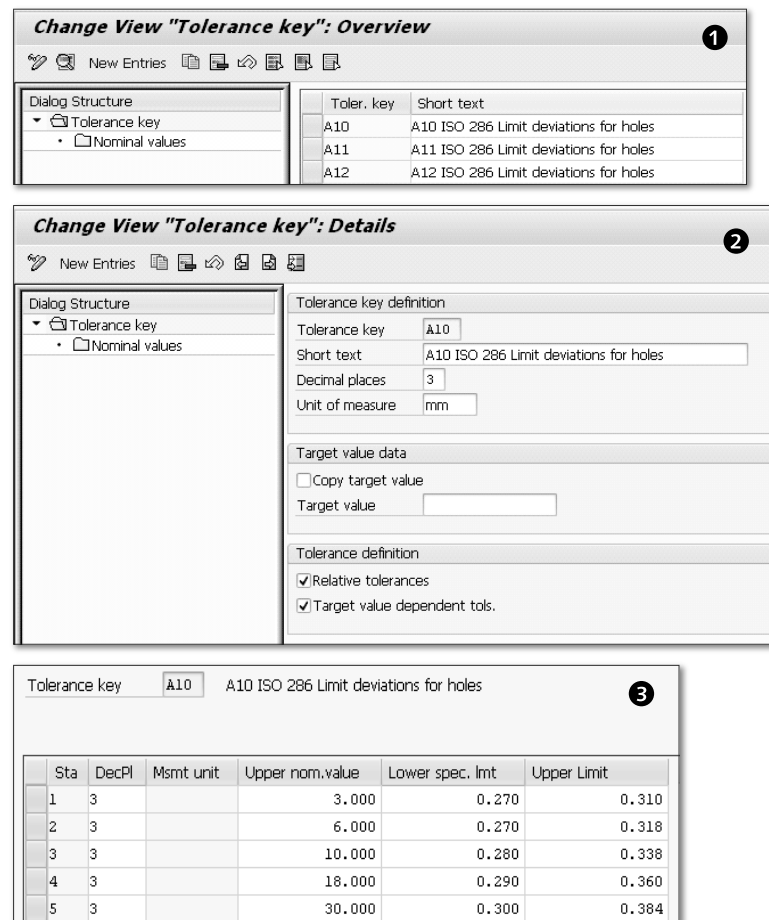

Figure 3.62 Tolerance Key
To create or change a tolerance key, follow the menu path SPRO • SAP REFERENCE IMG • QUALITY MANAGEMENT • QUALITY PLANNING • BASIC DATA • INSPECTION CHARACTERISTIC, INSPECTION METHOD • DEFINE TOLERANCE KEY. Figure 3.62 ❶ consists of a long list of industry-standard tolerance keys that you can evaluate before proceeding to create new ones. Choose TOLER. KEY (tolerance key) A10, and then choose DETAILS so that ❷ appears. Here, you can control the number of decimal places, as well as define the unit of measure of the tolerance key. You can also set and copy the TARGET VALUE while creating a characteristic. Choose NOMINAL VALUES in ❷ to go to ❸. In ❸, you can define both upper and lower nominal, specification, and limits, including the number of decimal places for each.